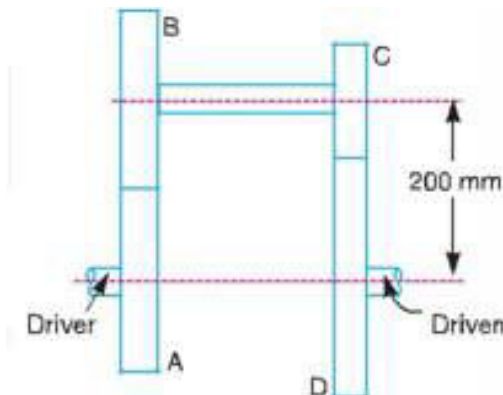

Figure 2
- b) The speed ratio of the reverted gear train, as shown in Figure 2, is to be 12. The module pitch of gears A and B is 3.125 mm and of gears C and D is 2.5 mm. Calculate the suitable numbers of teeth for the gears. No gear is to have less than 24 teeth. [10M]